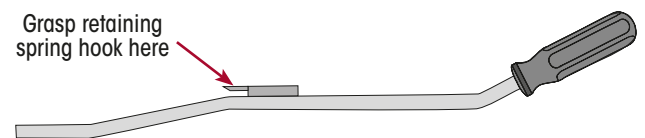
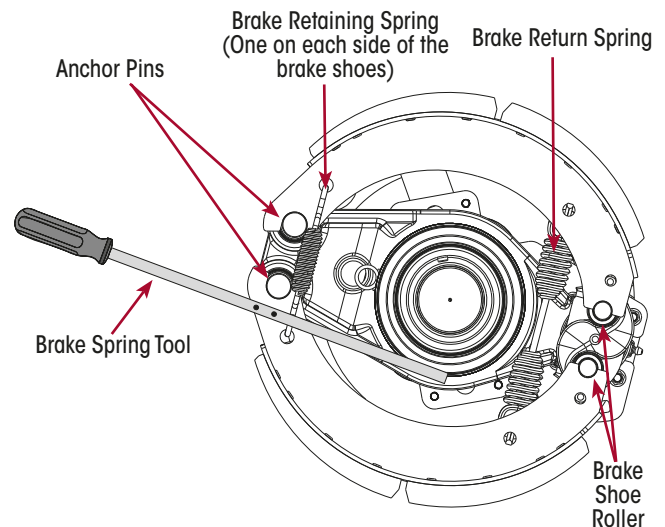

Figure 48: Brake Spring Tool
Figure 49: Removing Brake Retaining Spring
1. While manually supporting the lower brake shoe, use Brake Spring Tool (Figure 48) to unhook both brake retaining springs from the brake shoes. Take care not to damage the hub seal, spindle bearing or sealing surfaces. Refer Figure 49.